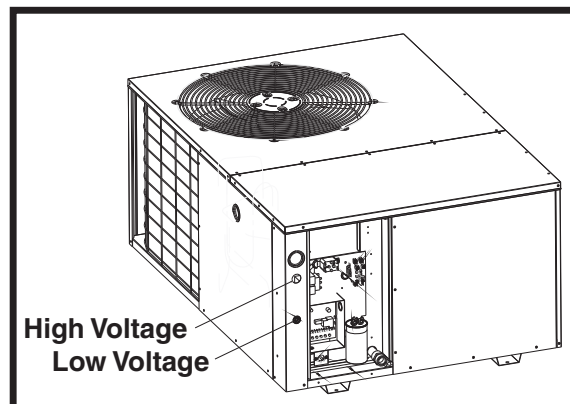

Figure 8. Power Entry
- Connect the line-voltage leads to the terminals on the contactor inside the control compartment. Extend leads through power wiring hole (Figure 8). Connect **L1** and **L2** directly to the contactor.
1. Route 24V control wires through the sealing grommet (Figure 8, page 8) near the power entrance.